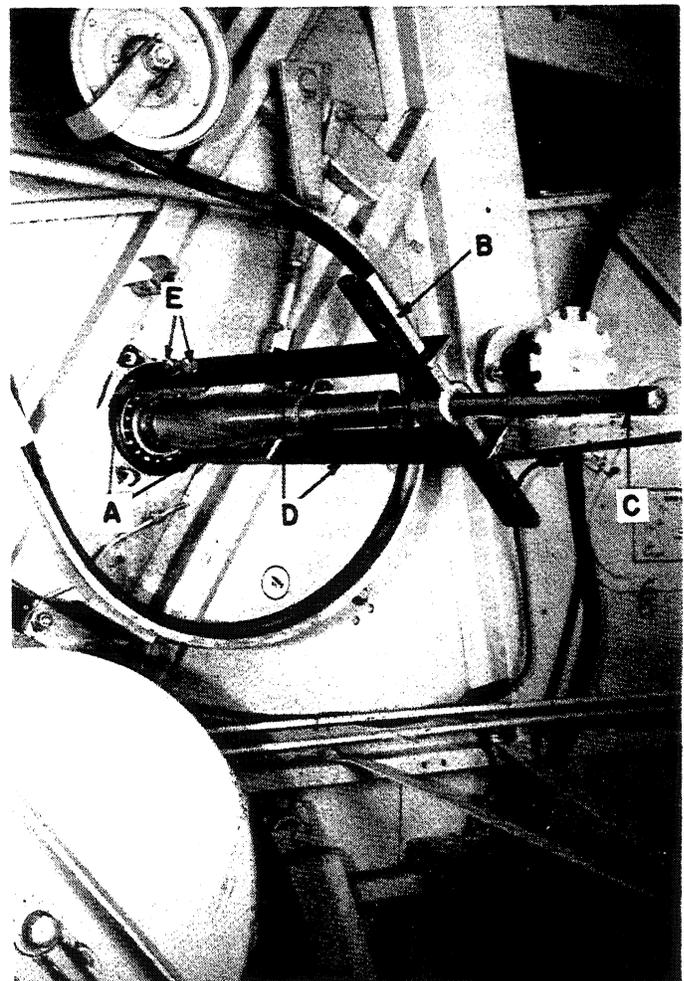
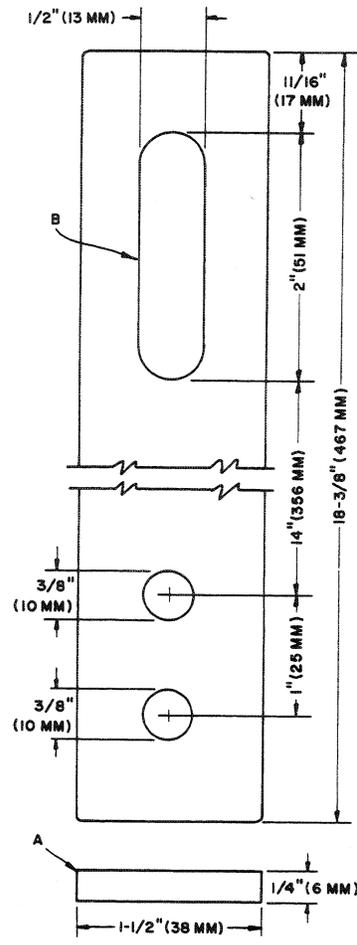

FIGURE 8
FIGURE 9
When using this puller on style "3" bearing (double-row ball bearing), only the bearing housing will be removed. The bearing can be removed with the puller shown in Figure 8.
2. To pull style "3" (double row ball bearing) after the housing is removed. See Figure 8.
- 1 #4012 forcing screw (C, Figure 8)
- 1 #4011 cross arm (B, Figure 8)
- 2 #4015 puller jaws (A, Figure 8)
- 2 Puller jaw extensions (D, Figure 8)
- 4 Cap screws - $\frac{3}{8}$ " x 1" Grade 5, flat washer and nuts (E, Figure 8)
The puller jaw extensions, D, Figure 8, can be fabricated as shown in Figure 9. Each jaw extension is bolted to the puller jaw with two 3/8" x 1" Grade 5 cap screws, flat washers and nuts at E, Figure 8. A, Figure 9, is an end view of the extension. Cut out slot, B, Figure 9, by drilling a series of holes and/or using a cutting torch and round file.